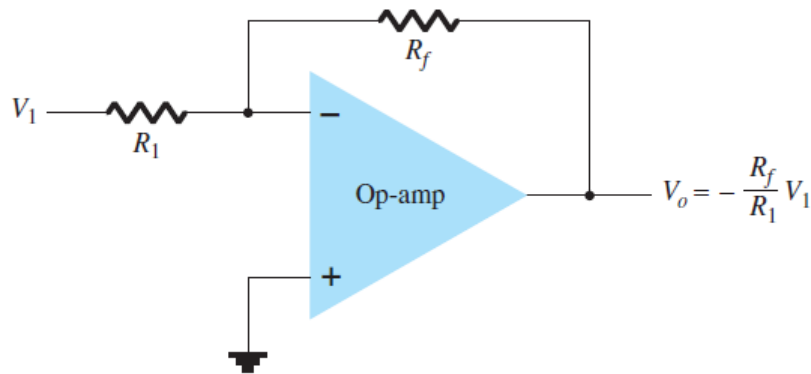

Figure 11.3.1: Inverting constant-gain multiplier.
The output is obtained by multiplying the input by a fixed or constant gain, set by the input resistor (R_1) and feedback resistor (R_f) –this output also being inverted from the input. Fig. 11.3.1.
1. Connect the circuit as shown in Fig. 11.3.1 with certain modifications.